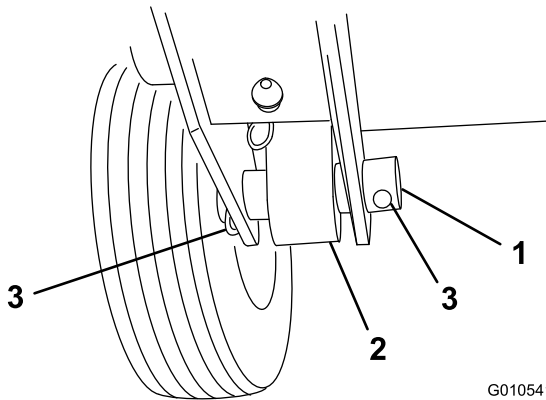

Figure 3
2. Spacer (2)
5. Mount the rear of the lift arm to the lift cylinder with a pivot pin and 2 cotter pins (supplied with the traction unit) (Figure 3).